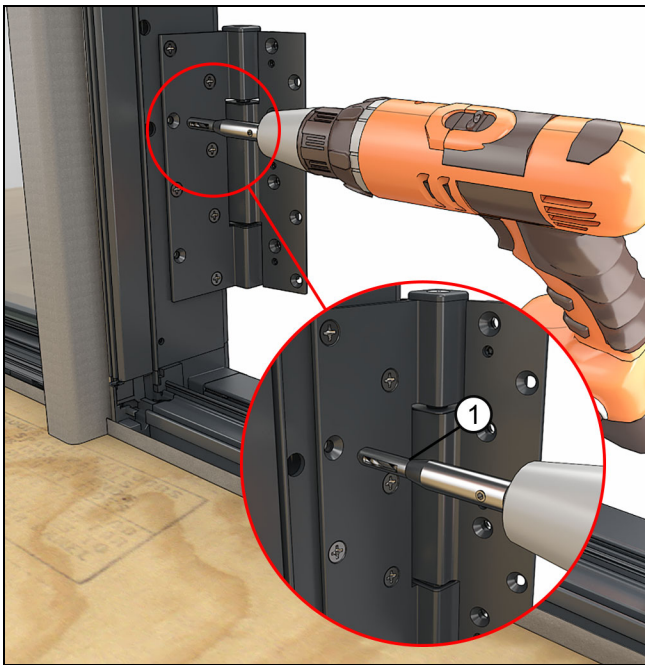

Figure 241 Pre-drill Hinges
21. Using the hardware holes as a guide, drill into the steel with the appropriate bit. Use the table in step 12 on page 62 for reference. See Figure 241.